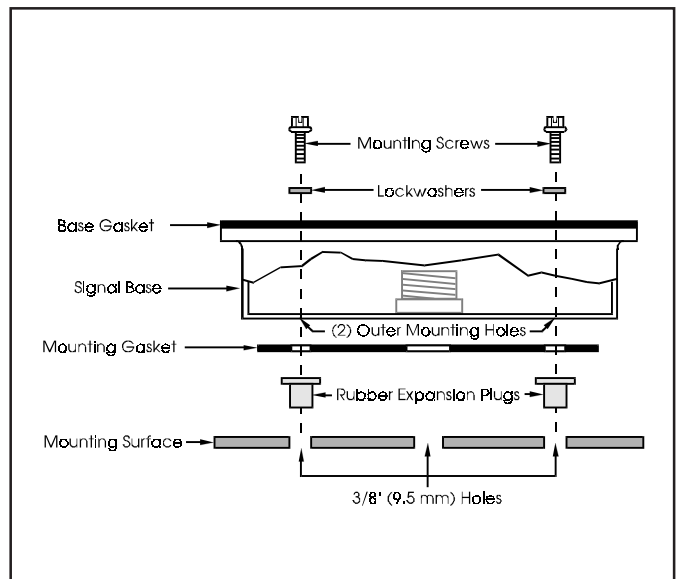

Figure 2. Direct Surface Mounting of Signal
- Install the two rubber expansion plugs provided in the hardware kit into the two outer holes in the mounting surface as indicated in Figure 2.
- Align the holes in the gasket with the holes in the base. Insert the two screws with lockwashers provided in the hardware kit through the mounting holes inside the base and align the screws with the rubber expansion plugs as shown in Figure 2. Press the base firmly against the mounting surface.